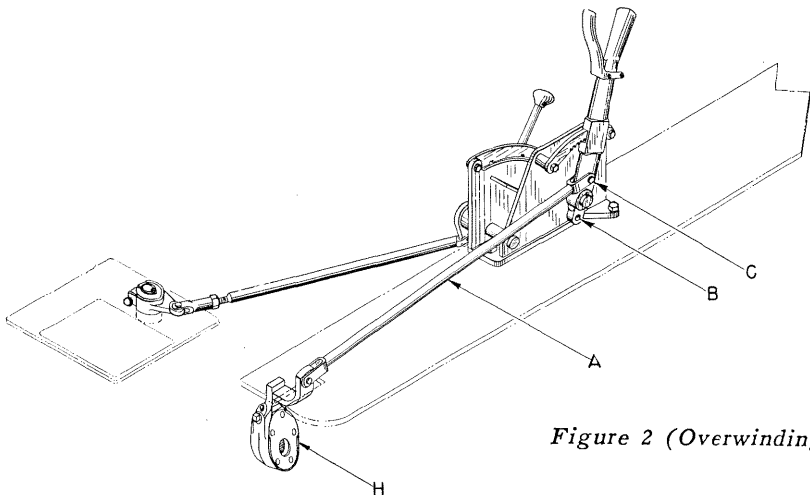

Figure 2 (Overwinding)
1. The brake link "A" should be connected to the UPPER HOLE in the handlever at "C," Fig. 2, when the DRUM IS OVERWINDING.